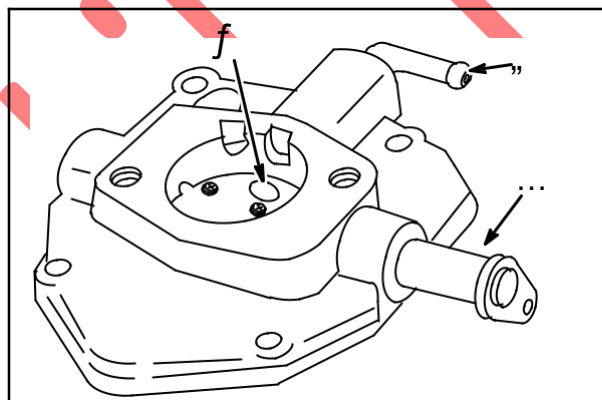

Fig. 86
Install choke shaft and spacer (5), **Fig. 86**.